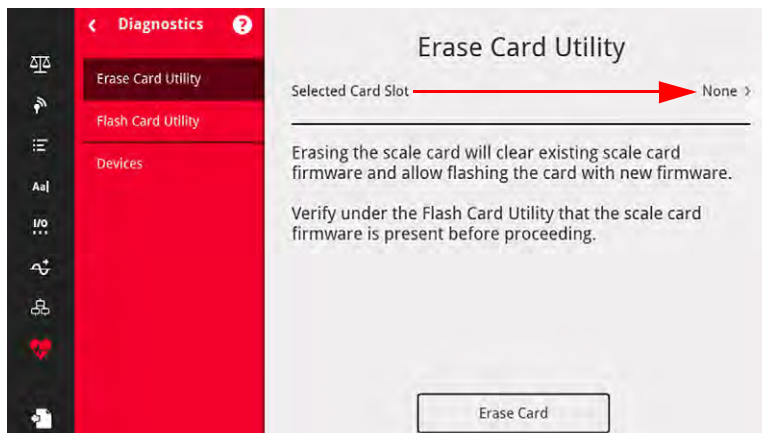

Figure 13-19. Erase Card Display
2. Select **Erase Card Utility**. Figure 13-19 displays.